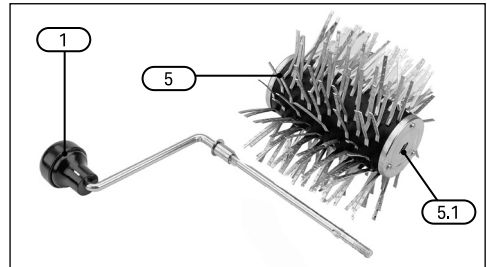
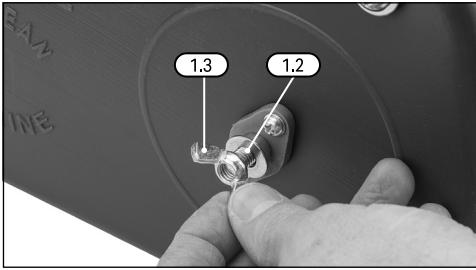

Fig. 1
Fig. 4
3.1 Installing the Roller and Drive Handle (Fig.1 – Fig.4)